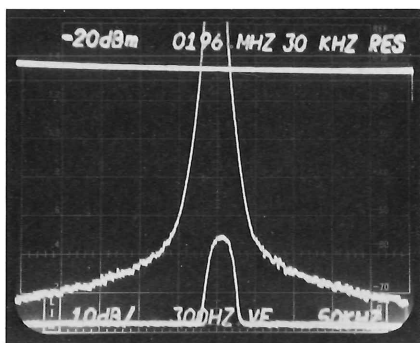

Figure 3-3. Composite triple-beat measurement using the 7L14's digital storage.
4. If a 7L14 is used, move the PEAK/AVERAGE cursor to the top of the screen and slow the sweep to 1 sec/DIV. The 7L14's digital storage makes the measurement much easier. Figure 3-3.